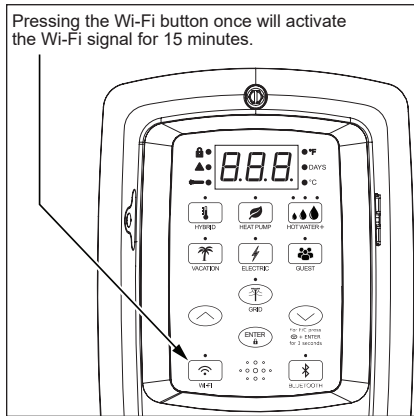

Figure 27 - Wi-Fi Control
- 1 To activate the Wi-Fi signal, press the Wi-Fi button once. The LED will blink on and off in 1/2 second intervals. Wi-Fi will activate pairing mode (Figure 27).